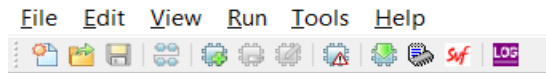

Figure 5.6. Programmer Menu Bar
- Click the **Programming** button from the menu bar shown in Figure 5.6 to start programming.